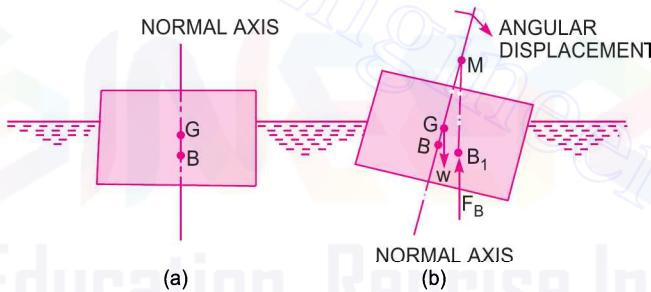

Fig. 4.5 Meta-centre
Consider a body floating in a liquid as shown in Fig. 4.5 (a). Let the body is in equilibrium and *G* is the centre of gravity and *B* the centre of buoyancy. For equilibrium, both the points lie on the normal axis, which is vertical.
Let the body is given a small angular displacement in the clockwise direction as shown in Fig. 4.5 (b). The centre of buoyancy, which is the centre of gravity of the displaced liquid or centre of gravity of the portion of the body sub-merged in liquid, will now be shifted towards right from the normal axis. Let it is at *B*1 as shown in Fig. 4.5 (b). The line of action of the force of buoyancy in this new position, will intersect the normal axis of the body at some point say *M*. This point *M* is called **Meta-centre**.
**Couple Due to Wedges.** Consider towards the right of the axis a small strip of thickness  $dx$  at a distance  $x$  from  $O$  as shown in Fig. 4.5 (b). The height of strip  $x \times \angle BOB' = x \times \theta$ .
But from Fig. 4.5 (c) it is clear that  $2 \int x^2 dA$  is the second moment of area of the plan of the body at water surface about the axis  $Y-Y$ . Therefore